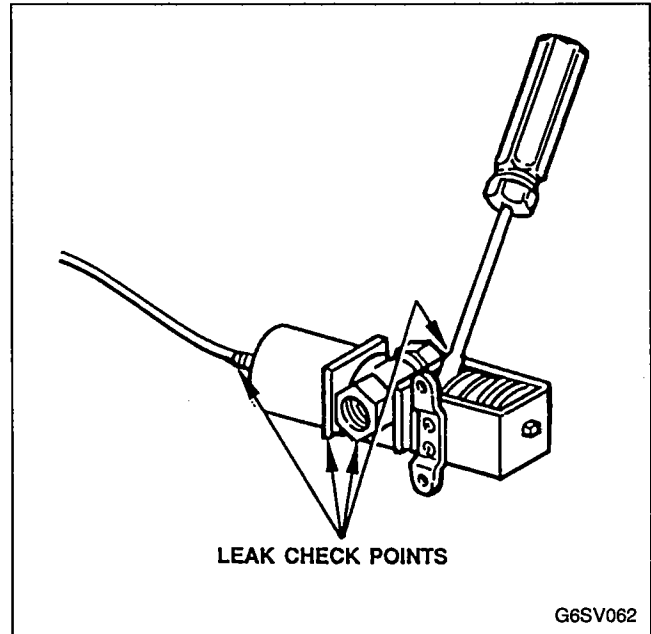

FIGURE 55. WATER REGULATING VALVE
2. Leak check where cap tube meets the bellows housing. See Figure 55.